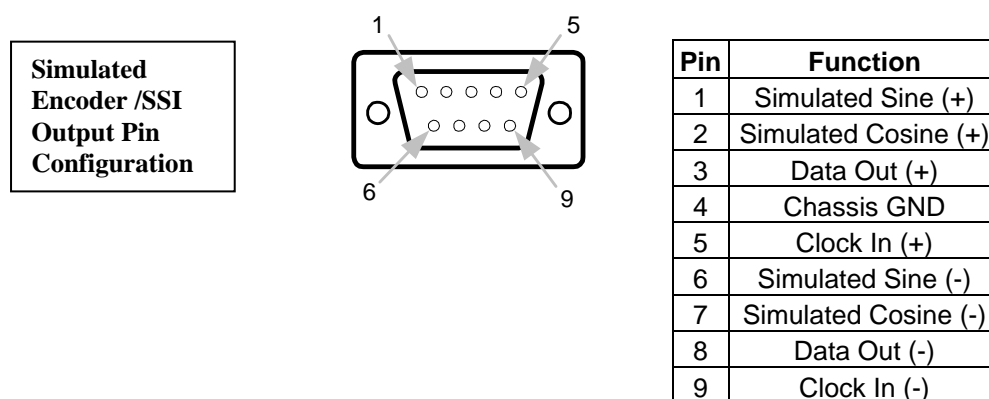

Figure E9 J5B Pin Configuration
See Figure E9
The Simulated Encoder is a 9 pin D-sub male connector (J5B). The pinouts are illustrated in Figure E9.
E.7 PLC Master – DS2110 Slave Arrangement**Figure E9 Block Diagram**